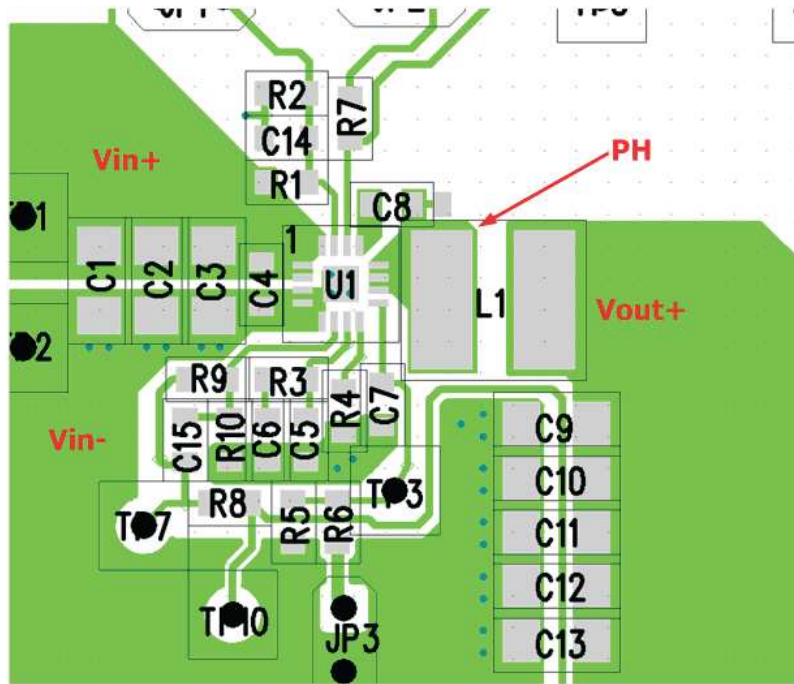

Figure 48. TPS54678 Layout Example
- Minimize the loop area formed by the bypass capacitor connections and the VIN pins. See Figure 48 for a PCB layout example.
- The sensitive analog ground connections for the feedback voltage divider, compensation components, soft-start capacitor and frequency set resistor must be connected to a separate analog ground trace as shown in Figure 48.